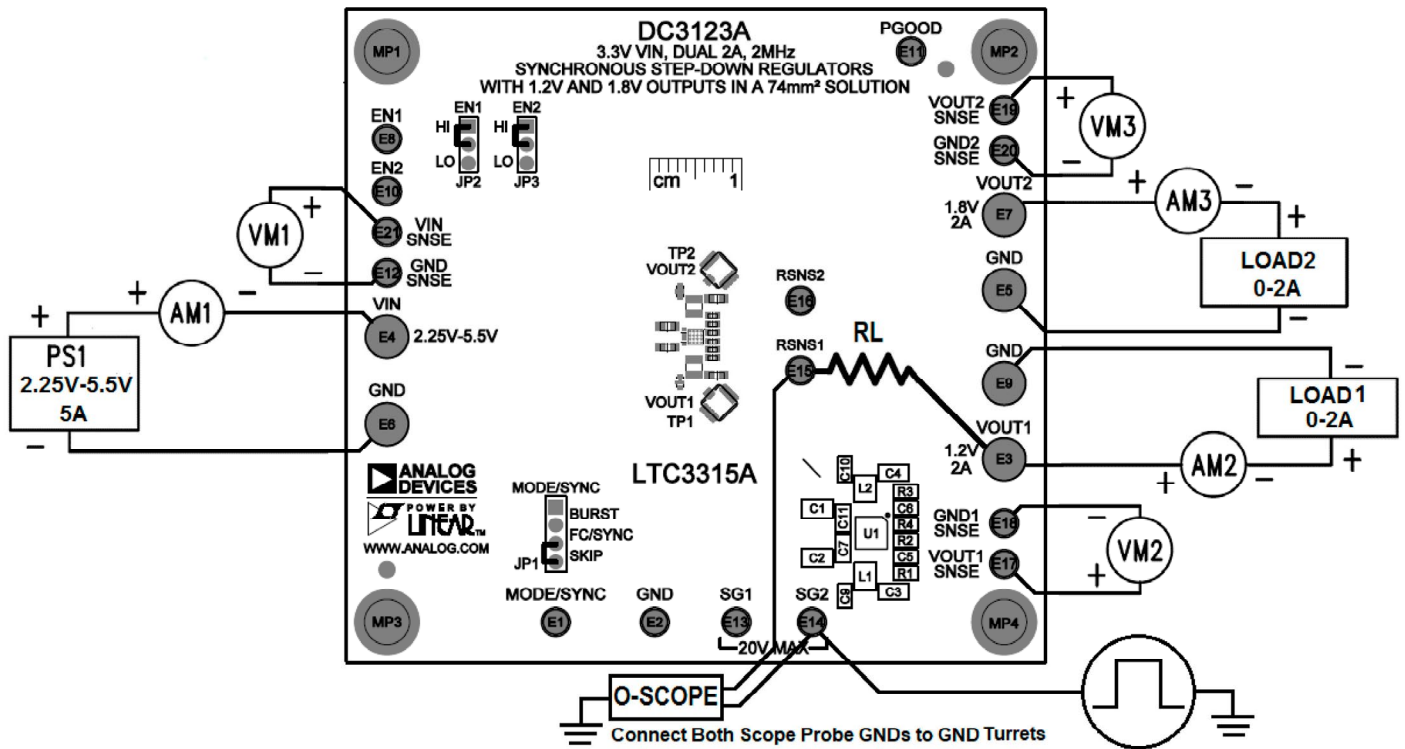
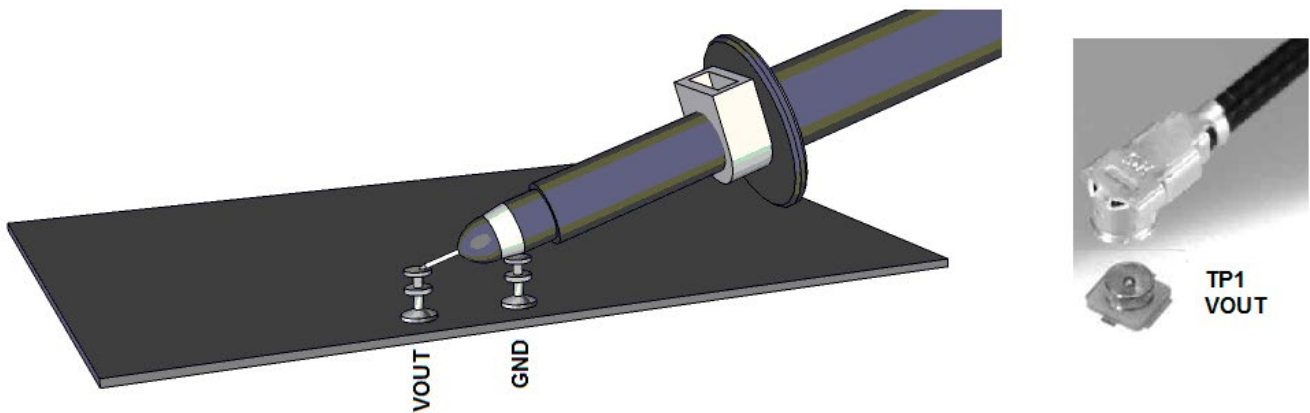

Figure 1. Proper Measurement Equipment Setup
Figure 2. Measuring Input or Output Ripple
The DC3123A is easy to set up to evaluate the performance of the LTC3315A. Refer to Figure 1 and Figure 2 for proper measurement equipment setup and follow the evaluation procedure below.
NOTE: For accurate  $V_{IN}$ ,  $V_{OUT}$  and efficiency measurements, measure  $V_{IN}$  at the  $V_{IN}$  SNSE and GND SNSE turrets and  $V_{OUT}$  at the  $V_{OUT}$  SNSE and GND SNSE turrets as illustrated as VM1, VM2 and VM3 in Figure 1. When measuring the input or output voltage ripple, care must be taken to avoid a long ground lead on the oscilloscope probe.
3. With power off, connect 0V to 6V, 5A power supply, PS1, between  $V_{IN}$  and GND with a series ammeter and a voltmeter as shown in Figure 1.
5. With power off, connect a 0A to 2A load to  $V_{OUT1}$  and GND with a series ammeter and a voltmeter as shown in Figure 1.
6. Turn on LOAD1 and slowly increase from 0A to 2A and observe the output voltage. The output ripple may also be observed using an oscilloscope with the probe connected as shown in Figure 2.
NOTE: Measure the output voltage ripple by touching the probe tip directly across the output turrets or to TP1 as shown in Figure 2. TP1 is designed for a 50 $\Omega$  coax cable to reduce any high frequency noise that might couple into the oscilloscope probes.
8. With power off, connect a second 0A to 2A load to  $V_{OUT2}$  and GND with a series ammeter and a voltmeter as shown in Figure 1.
9. Turn on LOAD2 and slowly increase the from 0A to 2A and observe the output voltage. The output ripple may also be observed using an oscilloscope with the probe connected as shown in Figure 2.
15. To test the transient response with a base load, turn off LOADx (LOAD1 or LOAD2) and add the desired resistor to produce a minimum load between  $V_{OUTx}$  and RSNSx turrets (RL shown on Figure 1). Note that the total load resistance will be RL plus RSNSx (100m $\Omega$ ).